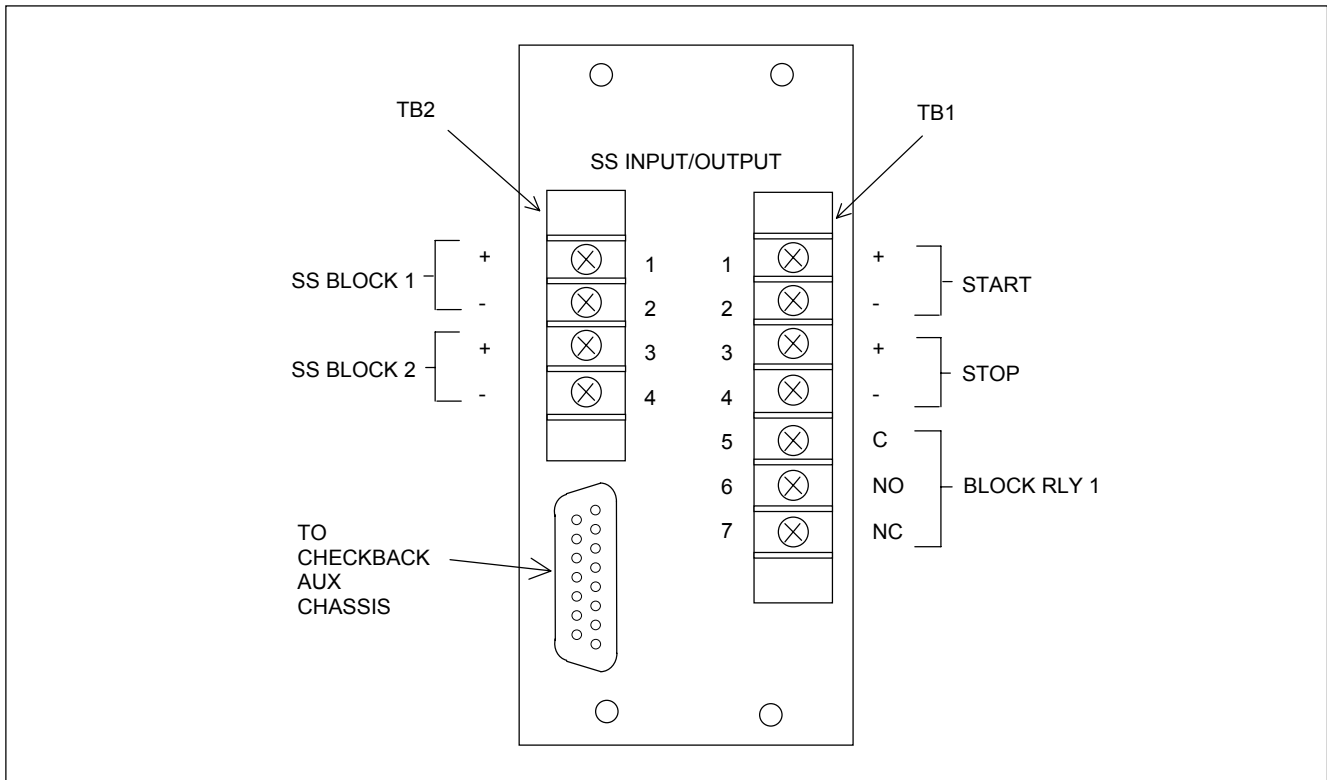

Figure 18-6. Typical Solid State Input/Output I/O module, rear panel view
The Solid-State Input/Output I/O Module (Figure 18-6) provides two solid state inputs, two solid state outputs, and one electro-mechanical output. This I/O is available in four versions as described in Table 18-5. In general, the inputs are used for keying start/stop, the solid-state outputs are used for receiving block commands, and the electro-mechanical output is used as a block output. The electro-mechanical output has normally opened (NO), normally closed (NC) and common (C) connections at the terminal block. All signals to and from the Solid-State Input/Output I/O Module interface directly with the 9785 Logic Module.